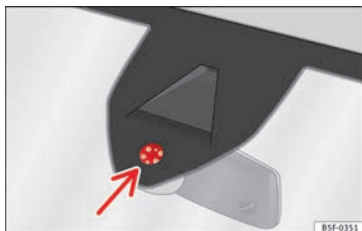

Fig. 148 Rain sensor sensitive surface
Possible causes of faults and mistaken readings on the sensitive surface **» Fig. 148** of the rain sensor include:
- Clean the sensitive surface of the rain sensor regularly and check the blades for damage » Fig. 148 (arrow).